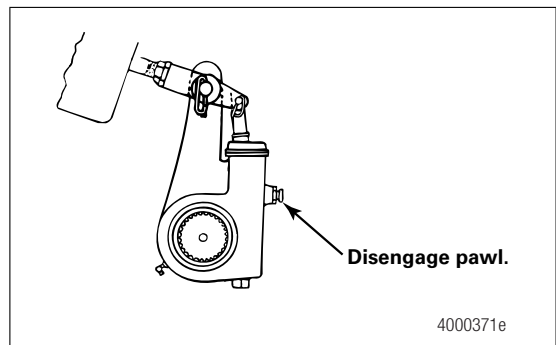

Figure 6.1
2. Use a wrench to turn the adjusting nut COUNTERCLOCKWISE until the brake shoes contact the drum. Figure 6.1. Then back off the adjusting nut 1/2 turn in the opposite direction.